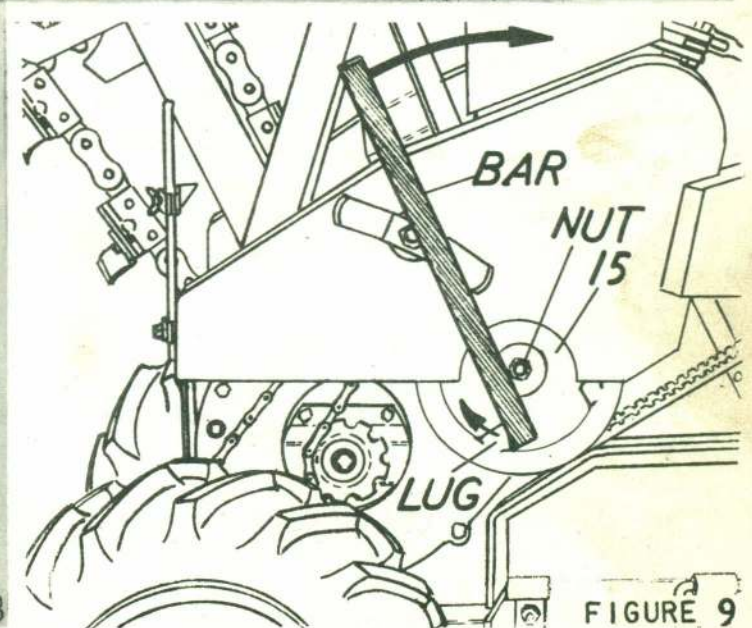

FIGURE 9
When a stone jams the machine or the digger chain is badly snagged, it usually helps to turn the digger chain backwards for freeing. To do this, provide yourself with an iron bar, about 3/8" x 1" x 3 ft. long, and use it to turn pulley (15), Fig. 9, backward as shown. Four lugs are provided in the rim of pulley for this purpose.